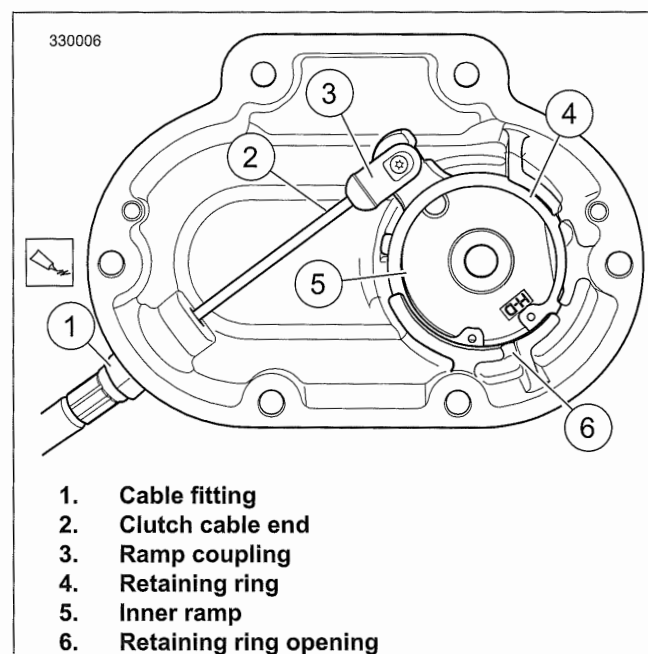
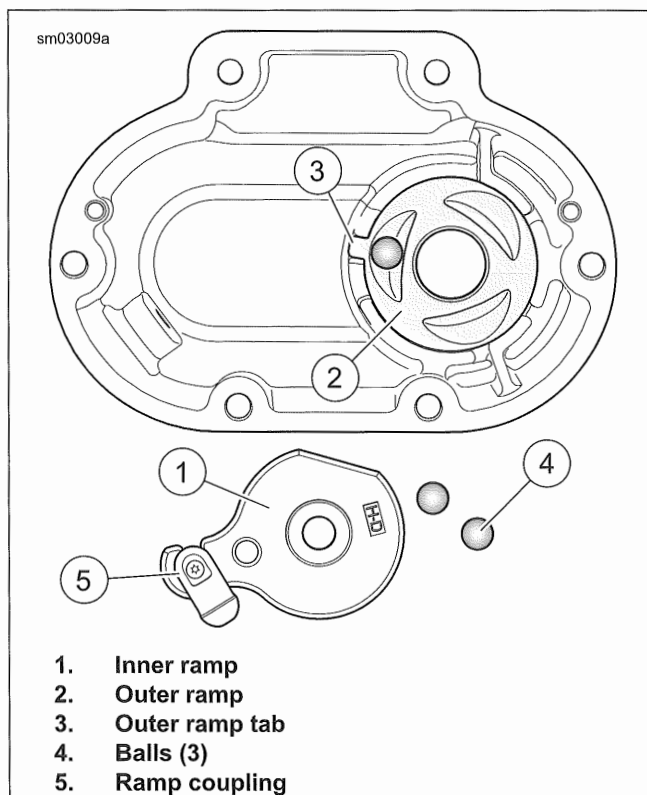

Figure 5-6. Clutch Cable Connection
Figure 5-7. Coupling and Ramp Assembly
2. See Figure 5-6. Disconnect clutch cable.
- a. Remove retaining ring (4).
- b. Lift inner ramp (5) and ramp coupling (3) out of clutch release cover.
- c. Disconnect clutch cable end (2) from the ramp coupling (3).
3. Remove coupling (3) from inner ramp.
4. See Figure 5-7. Remove balls (4) and outer ramp (2).
1. See Figure 5-6. Apply a drop of LOCTITE 243 MEDIUM STRENGTH THREADLOCKER AND SEALANT (blue) to the clutch cable fitting (1).
5. See Figure 5-6. Connect clutch cable.
- a. Connect cable end to ramp coupling (3).
- b. Install coupling on inner ramp (5).